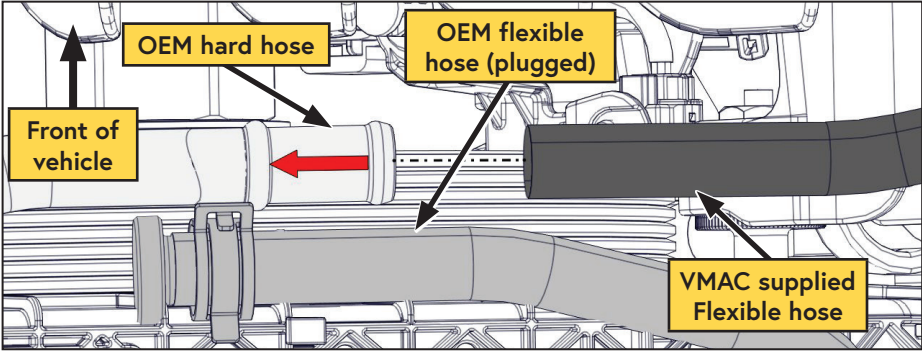

Figure 37 — Plug the flexible hose
- Connect one end of the supplied hose to the metal coolant tube. Ensure the hose is seated against the bead in the OEM hard line and secure using a hose clamp (Figure 37).